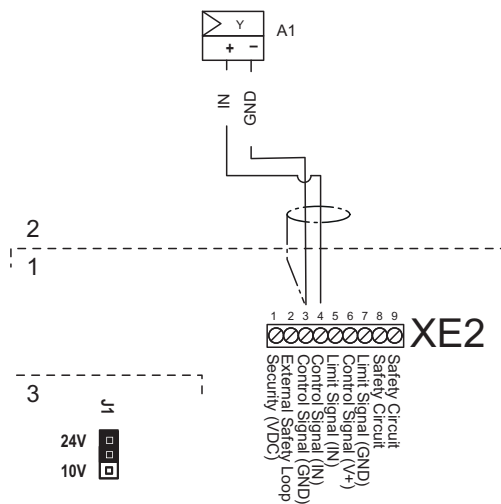

Figure 16 - Modulating Demand or Humidity Signal Connection
4. Connect the wires in to terminals 3 (GND) and 4 (IN) of the control terminal block, XE2. Refer to Figure 16 - above. If a shielded signal cable is used, connect the shielding to terminal "3" (GND).